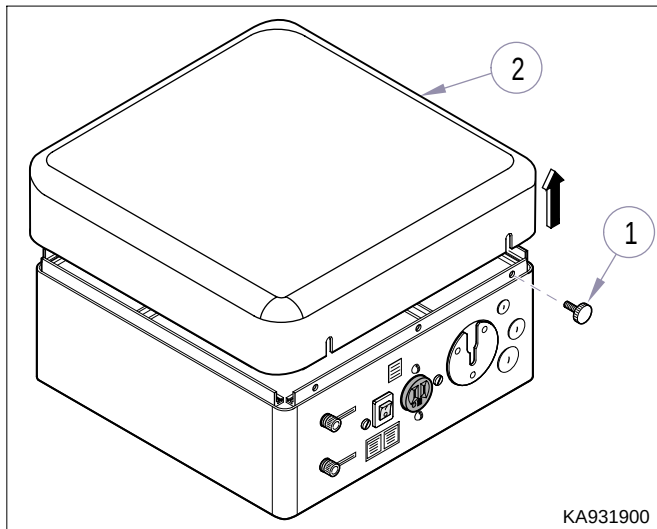

Figure 4-15. Junction Box Cover Removal
- (1) Disable unit for repair. (Refer to para 4.1).
- (2) Remove four thumbscrews (1, Figure 4-15) and junction box cover (2).